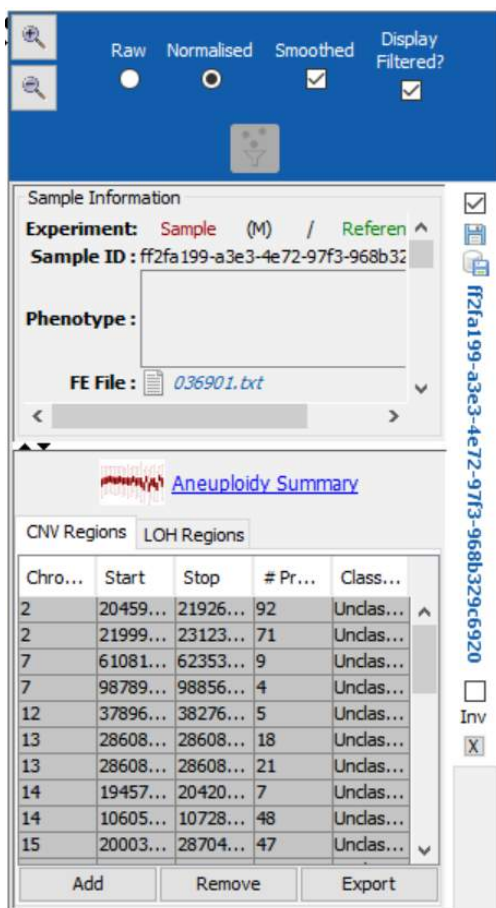

Figure 7: Right Side Panel of Genomic View.
- These tabs, which are found on the right-hand side of the panel, are associated with each open dataset (1 tab per dataset/sample). In Figure 7, only one dataset is open.